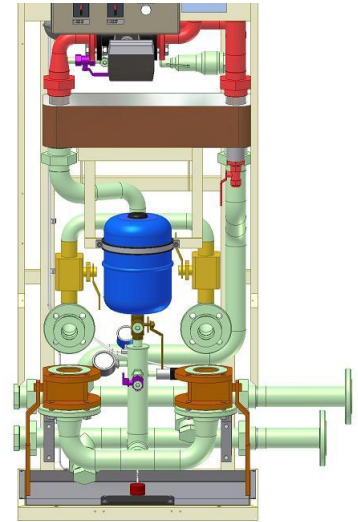

Figure 3.1-8
- Valves V161...V162 open (violet colour in Figure 3.1-8)
- Valve V160 lever down (brown colour in Figure 3.1-8)
- Valves V140...V141 closed (yellow colour in Figure 3.1-8)
- Valves V142...V143 open (orange colour in Figure 3.1-8)